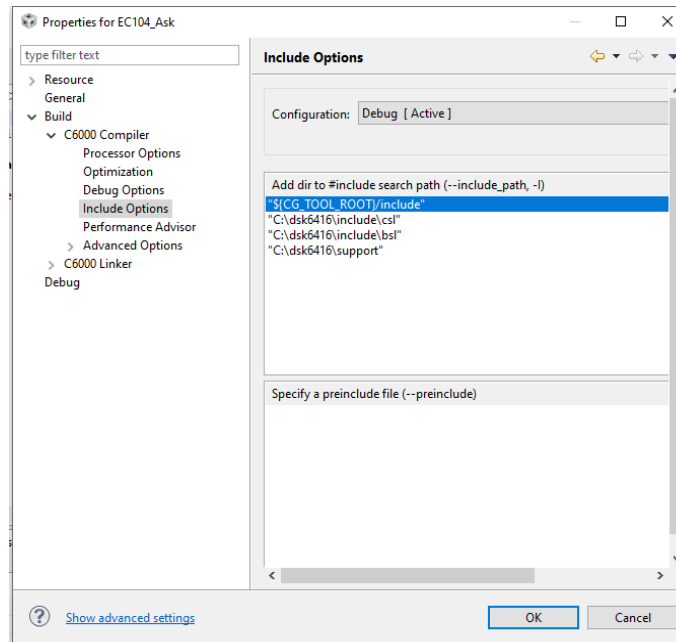

Fig.3. Inclusion of chip select, board support files in C6400 Compiler.
a) Include Support files, Chip select (CSL) & Board support (BSL) files, (Fig.3)